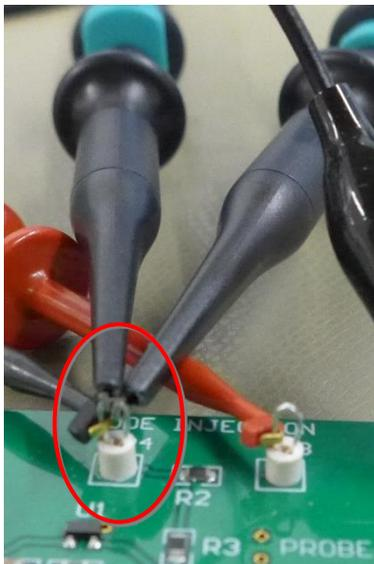

Figure 12: THRU Calibration
- 1 Connect both probes to the same point in the circuit as shown in Figure 12.